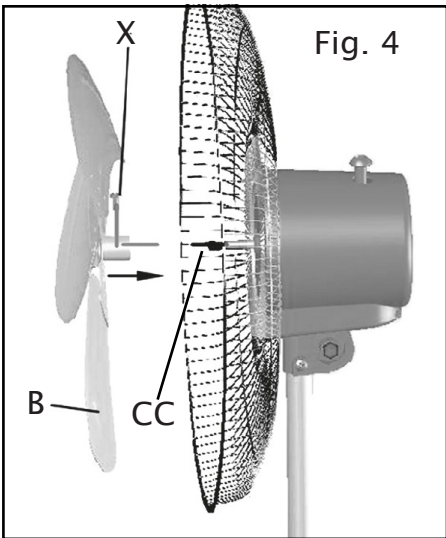

Fig. 4
Attention: the screw (X) must be screwed in correspondence with the flat seat obtained on the motor shaft (CC) and turned towards the inside of the device. (Fig. 4)